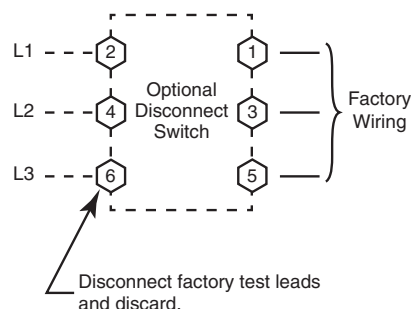

Fig. 17 — Power Wiring Connections
If equipped with optional powered convenience outlet: the power source leads to the convenience outlet's transformer primary are not factory connected. Installer must connect these leads according to required operation of the convenience outlet. If an always-energized convenience outlet operation is desired, connect the source leads to the line side of the unit-mounted disconnect. (Check with local codes to ensure this method is acceptable in your area.) If a de-energize via unit disconnect switch operation of the convenience outlet is desired, connect the source leads to the load side of the unit disconnect. On a unit without a unit-mounted disconnect, connect the source leads to compressor contactor C and indoor fan contactor IFC pressure lugs with unit field power leads (see Fig. 17).
Refer to Table 3 for maximum wire size at connection lugs. Use copper wire only. See Fig. 17 and 18.
The factory-installed option non-fused disconnect (NFD) switch is located in a weatherproof enclosure located under the main control box. The manual switch handle and shaft are shipped in the disconnect enclosure. Assemble the shaft and handle to the switch at this point. Discard the factory test leads (see Fig. 17).
All field wiring must comply with NEC and all local codes. Size wire based on MCA (Minimum Circuit Amps) on the unit informative plate. See Fig. 17 and the unit label diagram for power wiring connections to the unit power terminal blocks and equipment ground. Maximum wire size is #2 ga AWG per pole.
- Install power lines to terminal connections as shown in Fig. 17.